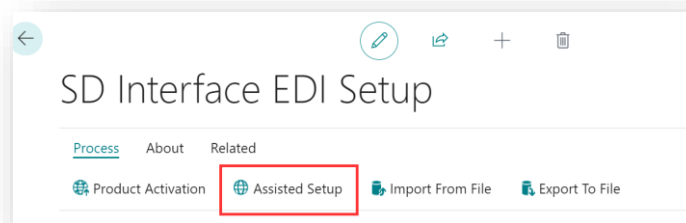

Figure 6-1
1. From the menu, choose the **Process** group, and then **Assisted Setup** (Figure 6-1).